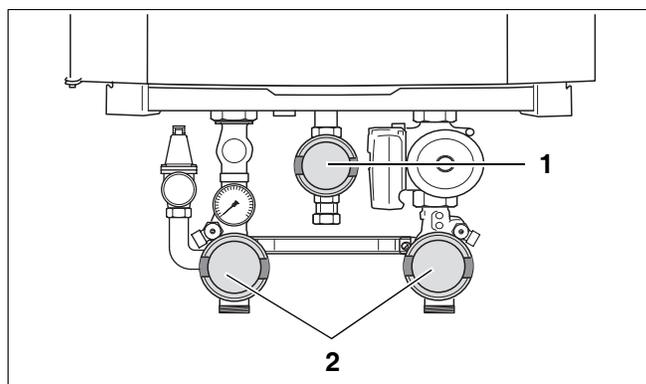

Fig. 78 Closing the valves (here: in closed position)
- Close the gas valve (fig. 78, pos. 1).
- Close the isolating valves (fig. 78, pos. 2).